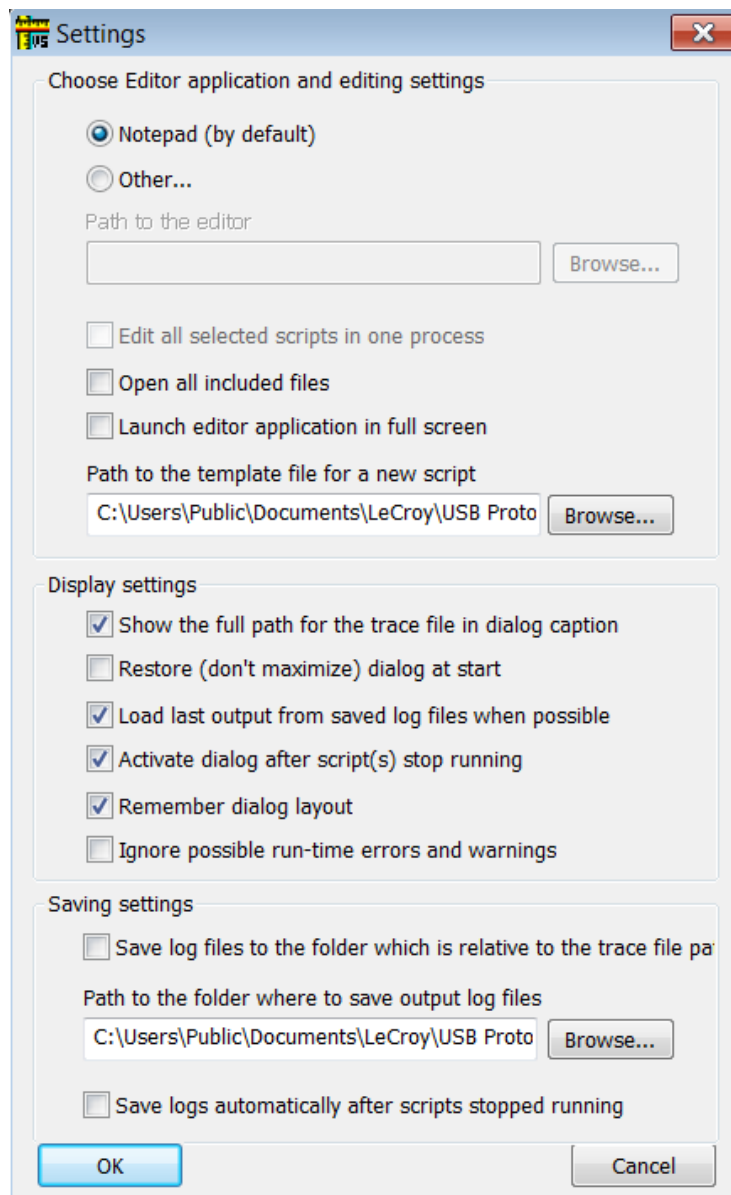

Figure 9.38: Settings Dialog
4. After choosing **Settings** from the drop-down list or the button, the Settings dialog appears (see Figure 9.38 on page 252.)